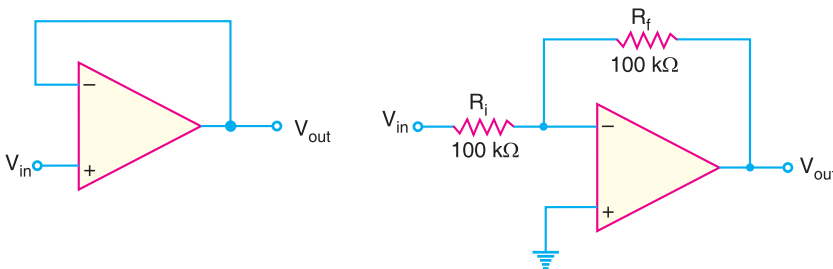

Fig. 25.104
11. Find the closed-loop voltage gain for each of the circuits shown in Fig. 25.104. [1 ; -1]